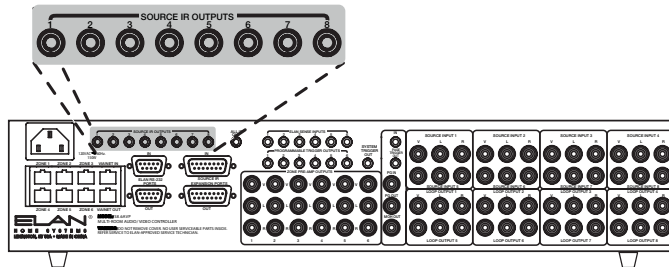

Figure 1-21. Source IR Outputs
The SOURCE IR OUTPUTS (14) connect IR to system sources that require source-specific IR Outputs (see **Figure 1-21**).